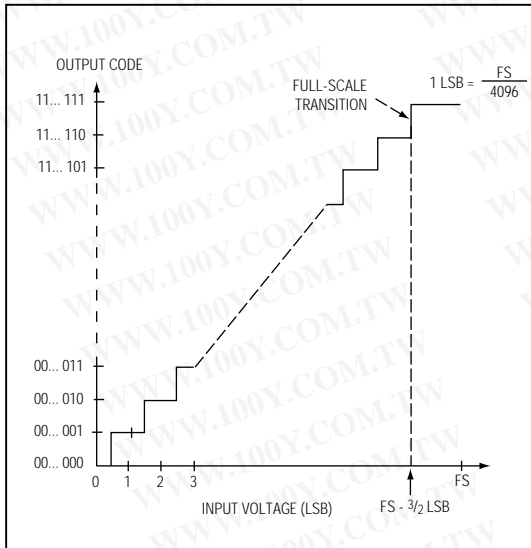

Figure 10. Unipolar Transfer Function
Output data coding for the MAX197 is binary in unipolar mode with  $1\text{LSB} = (\text{FS} / 4096)$  and twos-complement binary in bipolar mode with  $1\text{LSB} = ((2 \times |\text{FS}|) / 4096)$ . Code transitions occur halfway between successive-integer LSB values. Figures 10 and 11 show the input/output (I/O) transfer functions for unipolar and bipolar operations, respectively. For full-scale (FS) values, refer to Table 1.